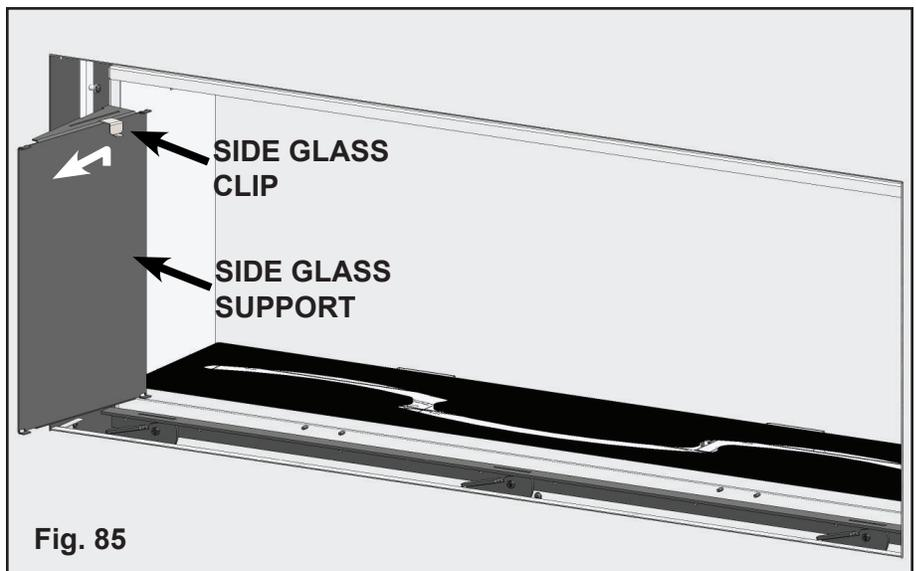

Fig. 85
4. If installed, remove the left and right side glass by sliding the side glass clips out. Handle glass by the edges to prevent smudging, wear clean vinyl gloves. Set glass aside. Remove the left and right side glass supports by lifting up and off of the appliance brackets. (Fig. 85) Set the glass supports aside.